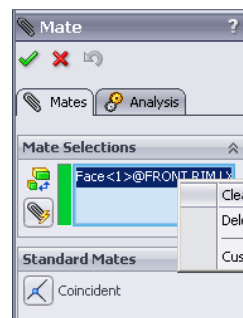

Fig. 4
- Step 3. If you select the wrong entity, **right click** the Mate Selection in the Mate Property Manager and click **Clear Selections**, **Fig. 4**.